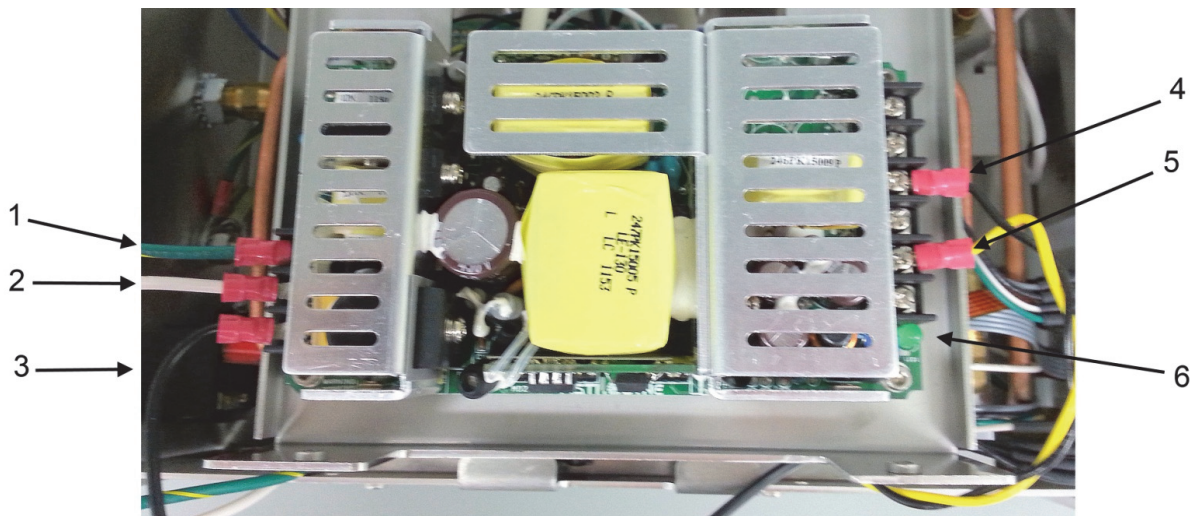

Figure 2
6. Remove the 115/230 VAC input wires, ground wire and the +24 VAC output wires from the Power Supply. See figure 2.
COM (Note location in figure 2)
+V (Note location in figure 2)
2. Attach the 115/230 VAC input wires, ground wire and the +24 VAC output wires to the Power Supply. See figure 2 in the previous section.
3. Remove all of the wiring harness connections from the Control Board. Mark the connections to assure proper reassembly, you can also refer to *"EGA-500 Components"* Section, figure 2.